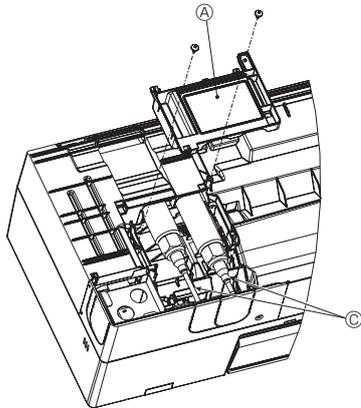
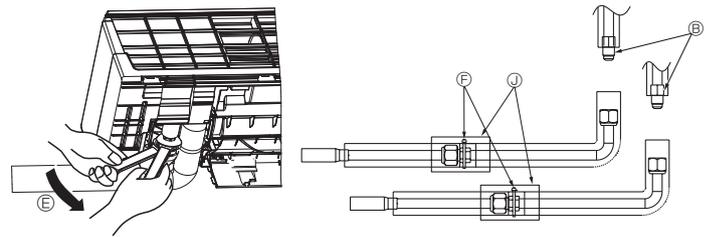

Fig. 3-16
Fig. 3-18
- (4) Remove Box cover (A). (Fig. 3-16)
- (5) Loosen the nut on the L-shape piping side with two wrenches, and remove and disposal the piping (C).
- (6) Direct the L-shaped connector toward the exiting direction of the piping and tighten it with two wrenches. (Fig. 3-18)